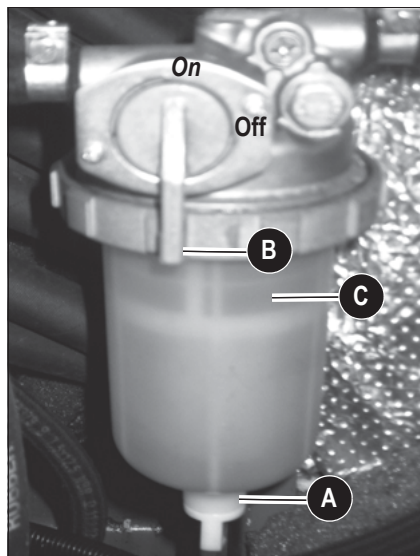

Fig. 4: Fuel prefilter
- Remove the dipstick **A** (Fig. 4).